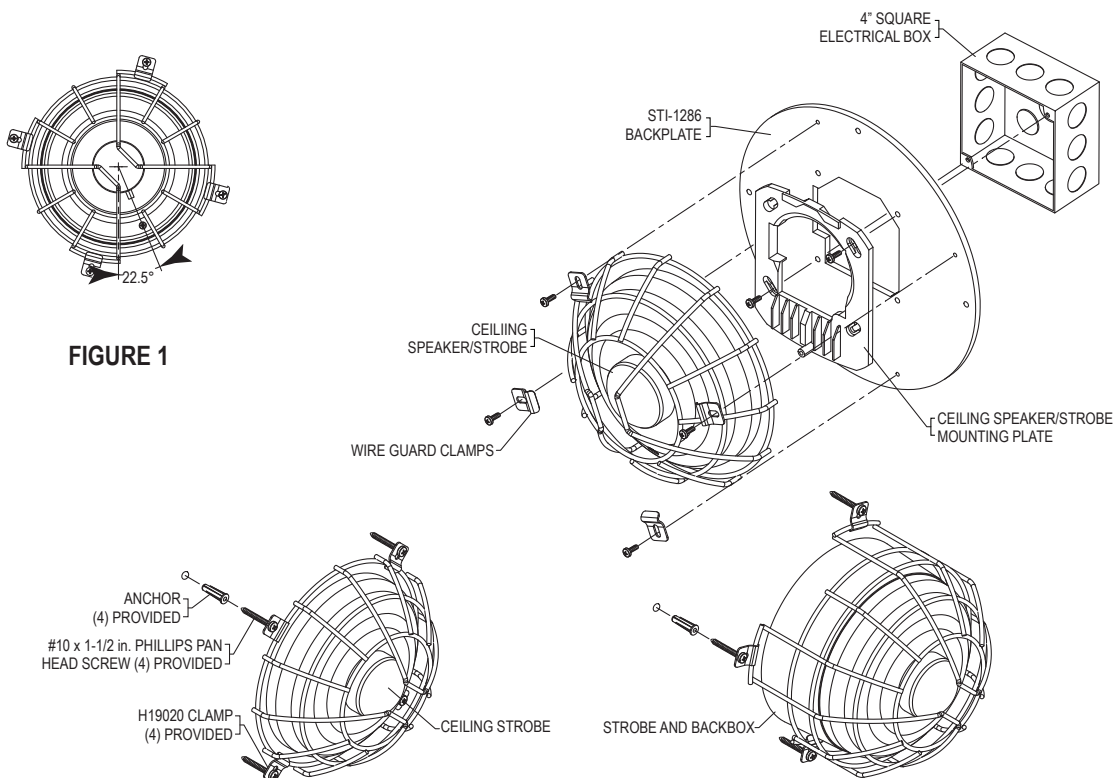

FIGURE 1
1. Place wire guard over strobe as shown in Figure 1. Make sure wire guard is rotated to maximize light exposure.
3. Drill (4) 5/32 diameter holes 1 1/2 in. deep. If using 19033 anchors, drill (4) 11/32 diameter holes 1 1/2 in. deep.